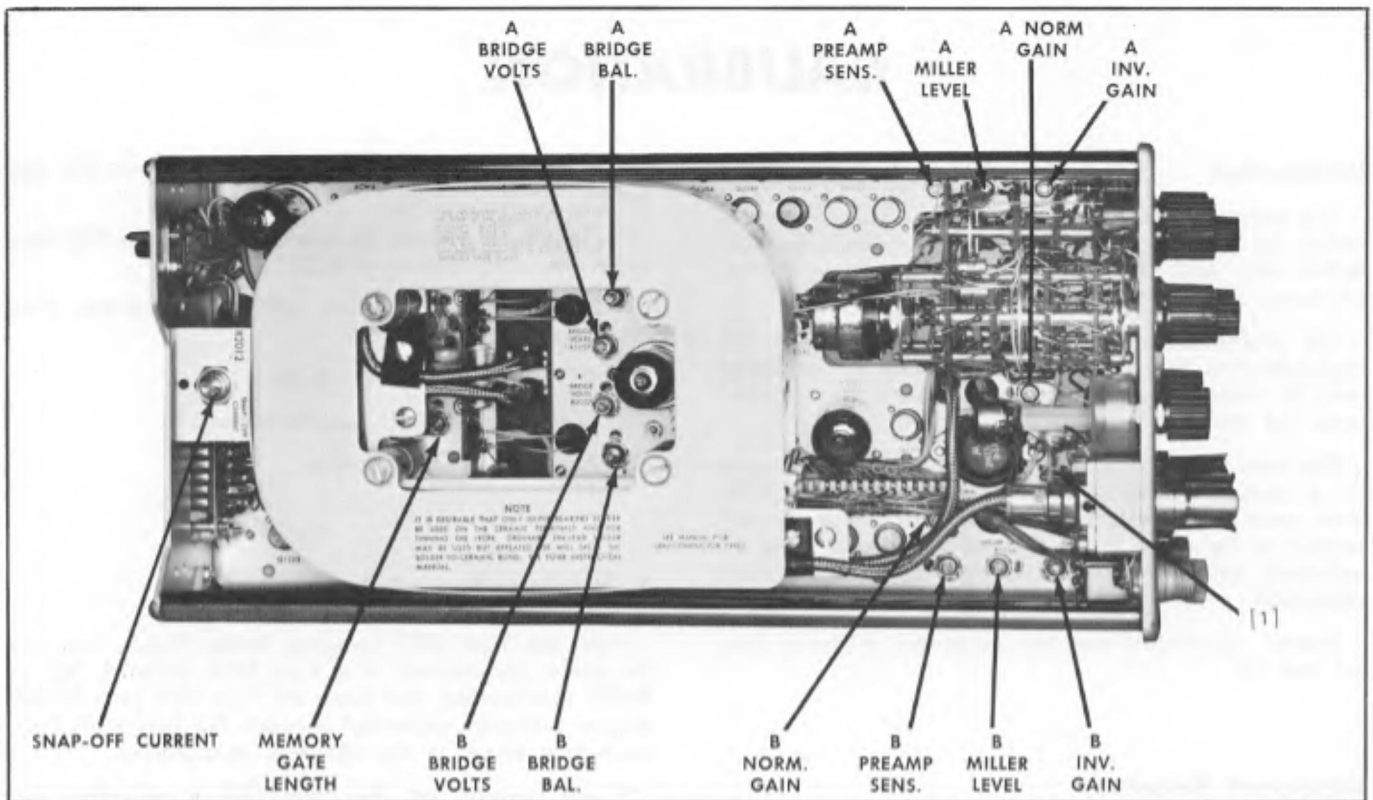
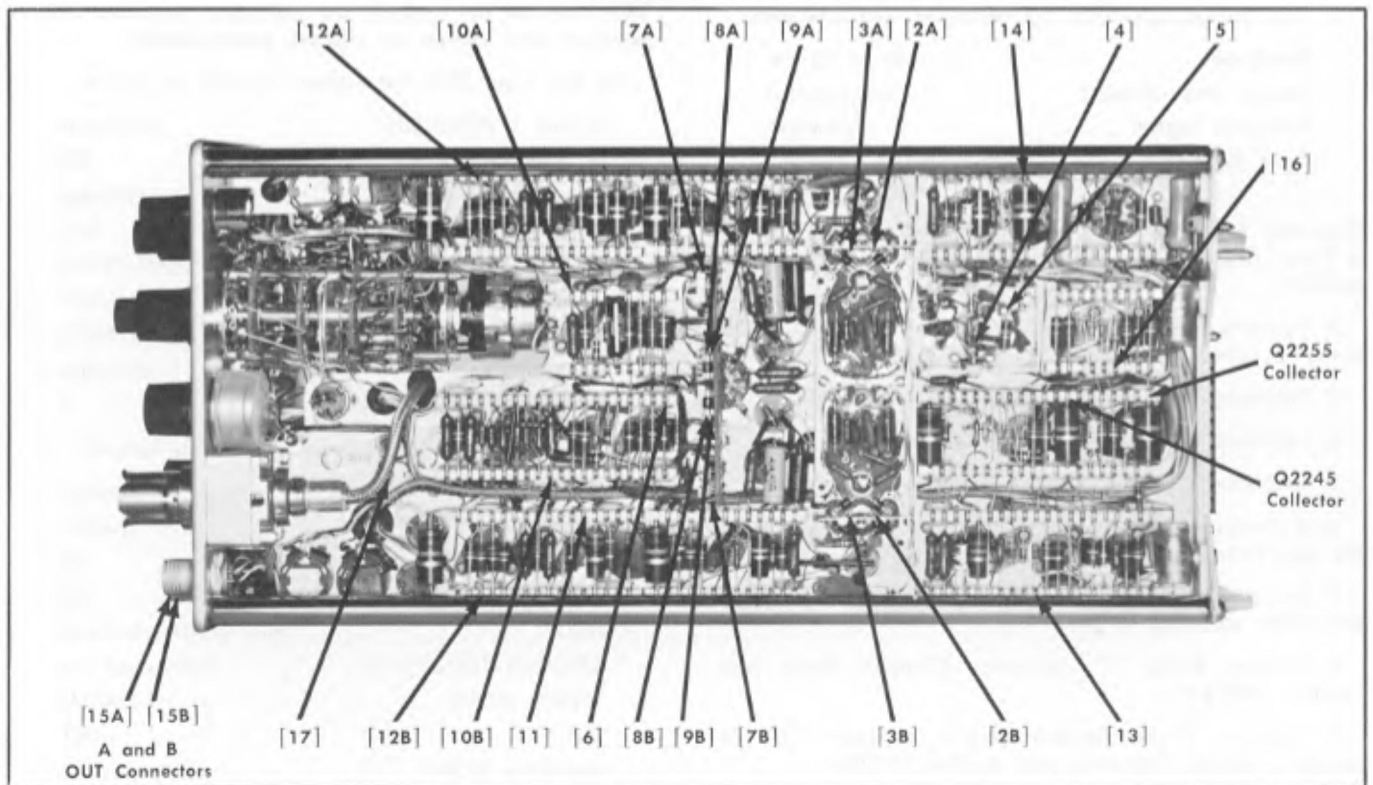
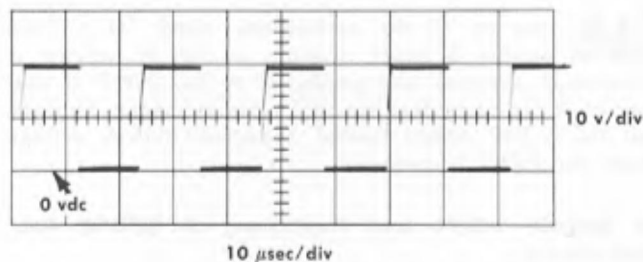

Fig. 6-1. Left-side view showing test point and internal adjustment.
Fig. 6-2. Right-side view showing test points.
Fig. 6-3. Signal at collector of Q2245 or Q2255.
Internal adjustments and test points are shown in Figs. 6-1 and 6-2.
The location of each adjustment is shown in Fig. 6-1; the location of the test points is shown in Fig. 6-2.
3. With the test oscilloscope, display the signals at the collectors of Q2245 and Q2255 (Fig. 6-2). The signals should resemble the waveform shown in Fig. 6-3. Vary the RECOVERY TIME control of the Type 3T77; repetition rate of the displayed waveforms should vary. Return both NORM.-INV. switches of the Type 3S76 to INV.